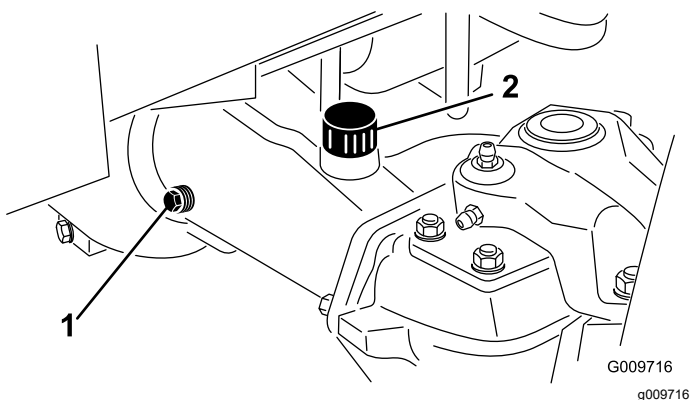

Figure 145
4. Remove the 2 axle housing check plugs and the fill plug to ease in draining of the oil (Figure 145).